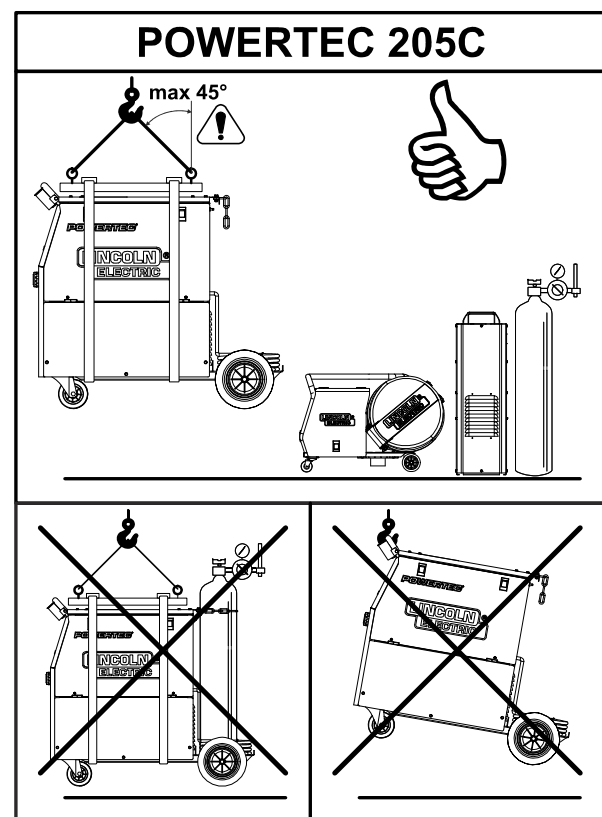

Figure 20.
To safety transport and lift POWERTEC® 205C (see the Figure 20):
- Use equipment of adequate capacity to lift and support unit. Use a travers and minimum two belts as is shown of Figure 20.
- Apply load axially in 45 degree angle in accordance to the Figure 20.